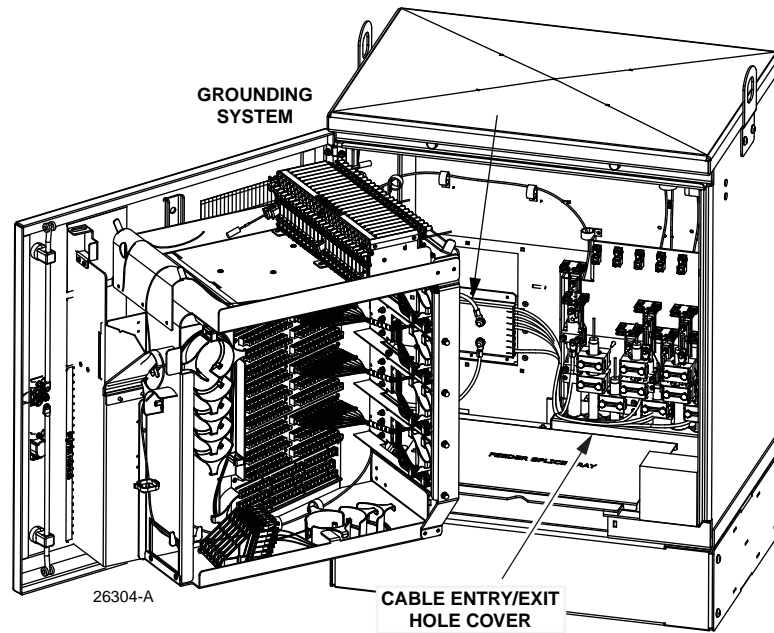

Figure 22. Cable Entry/Exit Hole Cover
1. Remove the nuts that secure the cable entry/exit hole cover to the bottom of the cabinet as shown in Figure 22. Save nuts for reuse.